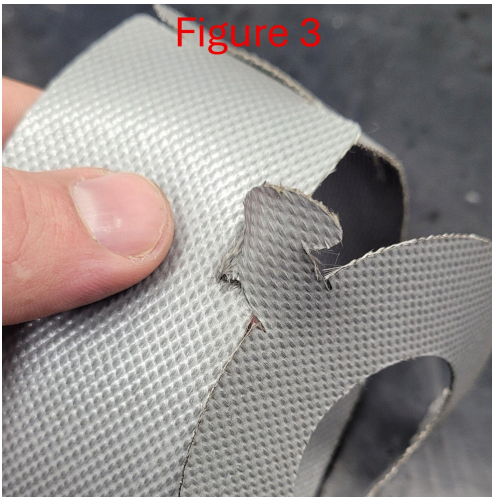
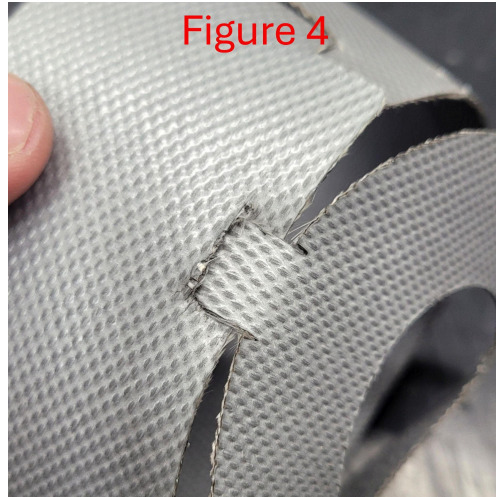

Figure 3
Figure 4
2. Fold the top down onto the arc and insert one of the tabs into the slot on the arc just like the previous step (Figure 3). Pull tab through the slot (Figure 4). Do this step to all of the tabs.